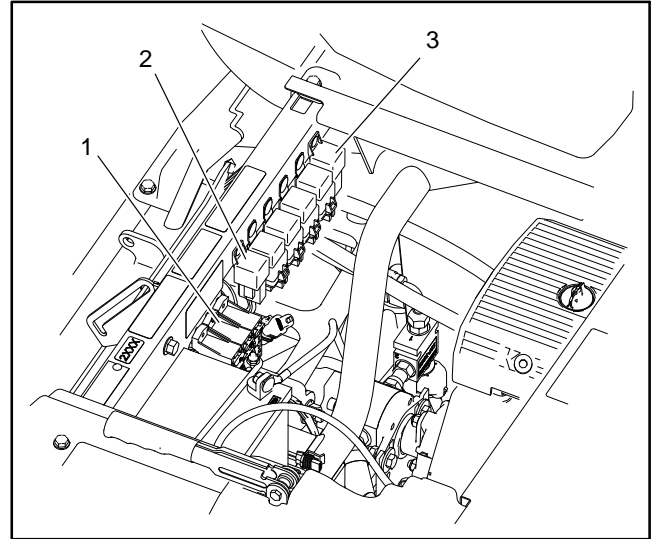

Figure 69
The main power relay is used to provide current to most of the fuse protected circuits (InfoCenter display, spray system components, headlights and optional electric equipment). The power relay is energized when the ignition switch is in the RUN or START position. This relay has four (4) terminals and is located under the operator seat next to the fuse blocks (Fig. 69). The main power relay can be identified by a tag at the relay wire harness connector.